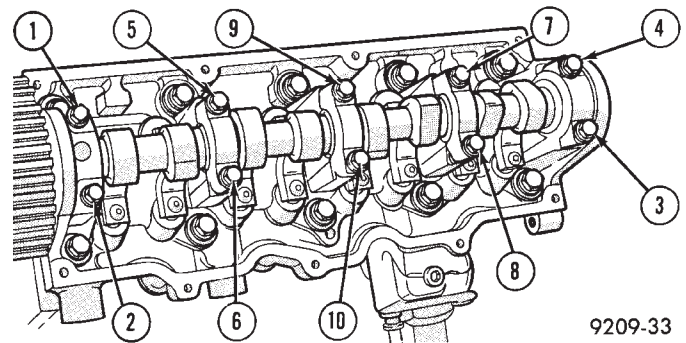

Fig. 7 Camshaft Cap Removal Sequence
(3) Loosen camshaft bearing cap screws several revolutions (Fig. 7).
(4) Jar camshaft at rear of cam to loosen (break free) the bearing caps. **Use a soft faced mallet.**